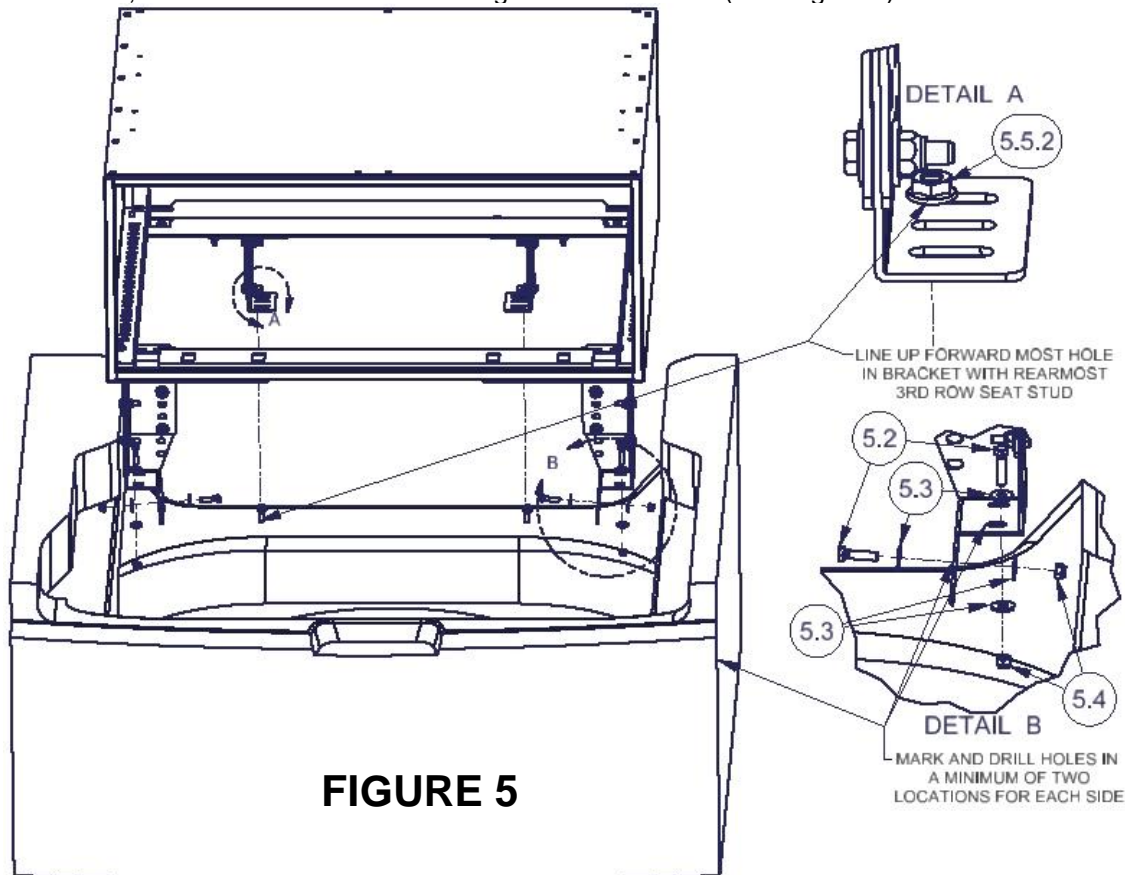

FIGURE 5
4. Place the enclosure with the mounting brackets in the rear of the vehicle. Be sure the correct holes in the #6 mounting brackets toward the front of the vehicle line up with the original bolts/studs in the vehicle floor. There must be a 2" gap front-to-back between the drawer front and the rear liftgate. Check that the liftgate shuts with enough clearance for the drawer handle. (See Figures 5)
5. Mark the spots under the illustrated holes in the #2, and #3 mounting brackets for drilling. (See Figure 5)
6. Remove the drawer enclosure and drill out the marked spots to 3/8". (See Figure 5)
7. Fasten the enclosure with the brackets mounted to the floor of the vehicle as illustrated using the OEM hardware (#5.5.2 flange nuts) to the existing 3rd row seat studs. Fasten the rear mounting brackets to the vehicle floor with the provided #5.2 Bolts, 5.3 Washers & 5.4 Nuts through the drilled holes (See Figure 5)